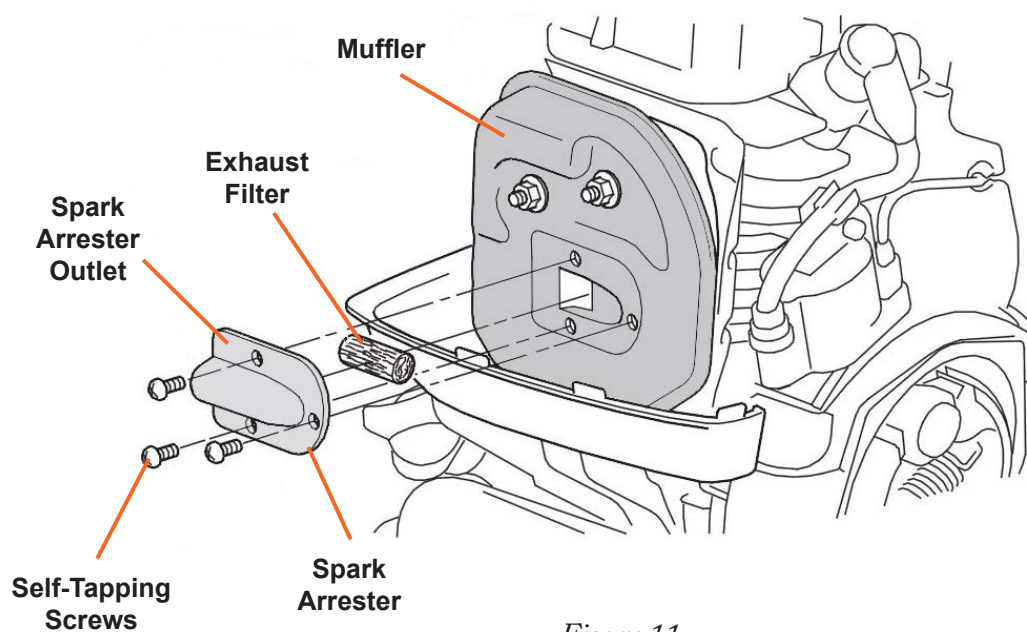

Figure 11
2. Remove the three 4mm x 6mm self-tapping screws from the spark arrester and remove the spark arrester and the exhaust filter from the muffler (see Figure 11).